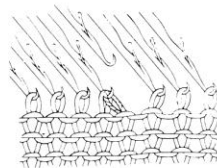

Fig.50-5
- e) By tilting the handle of the tool upwards, slide the stitch off the transfer tool into the hook of the needle. (Fig.50-5)